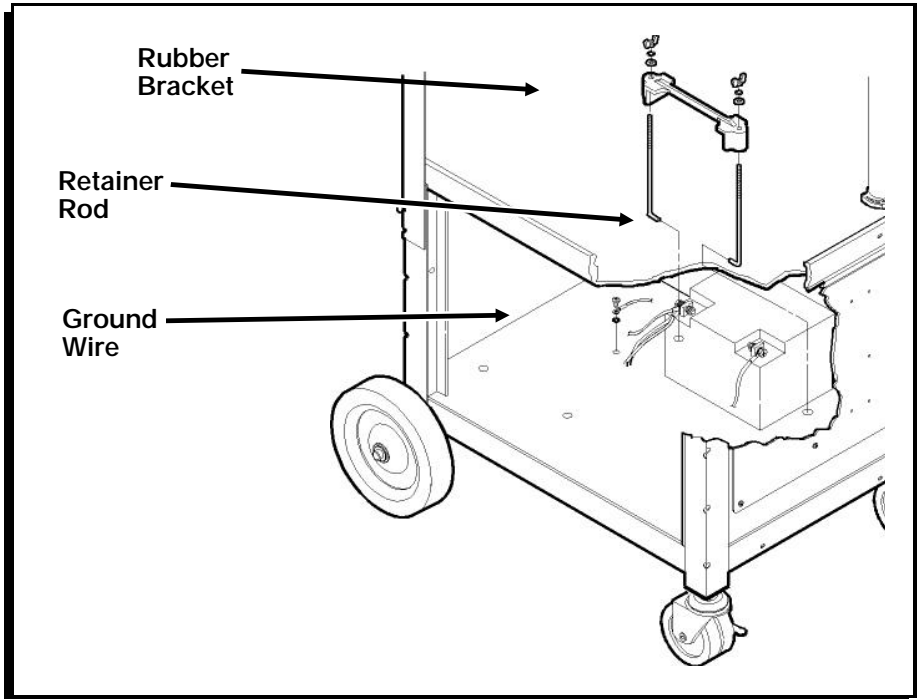

Figure 12
6. Position the battery between the retainer rods. The writing on the battery should face out. (Figure 12.)
7. Place the rubber bracket across the top of the battery. Use 1/4"-20 wing nuts, washers, and lockwashers to attach the retainer rods to the rubber bracket. Tighten both wing nuts equally to secure the battery. (Figure 12.)